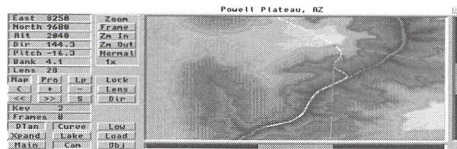

Figure 3: Layout showing a wireframe of frame 50 with background image.
- From the Options panel, select the Show BG Image button. As you advance and reverse the frames using the Current Frame slider, arrow buttons or requester, you will see a "pencil sketch" version of the background image (like that shown in Figure 3) change to the one that matches the frame currently designated in the frame requester.